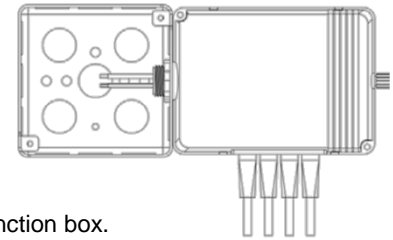

Figure 1
1. DO NOT DISCARD THE MAC ADDRESS LABELS INCLUDED WITH THE PRODUCT. SEE STEP (5) BELOW.
4. Mount the room controller's enclosure to a ½" knockout opening of an electrical junction box. Secure it to box tightening the included locknut. (See Figure 1)